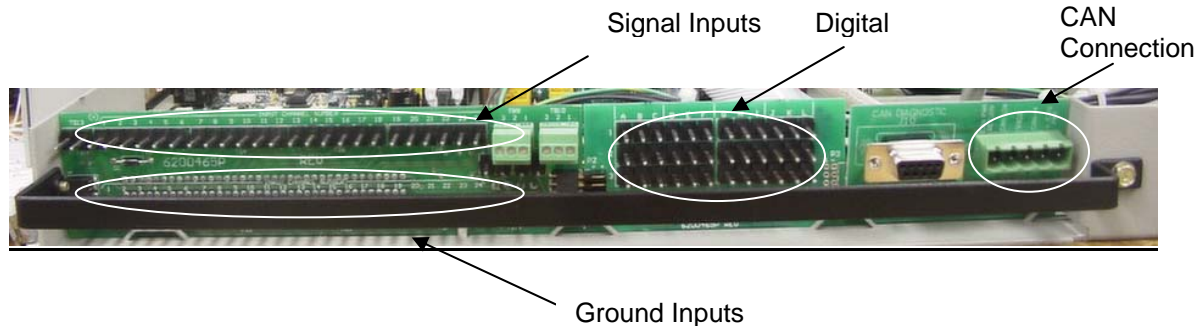

Figure 1-5. Location of Input Channels
In addition, the NetMACS II is equipped with a digital output option that provides four relay channels, each providing two Form C contacts. These relays reside on the companion interface card (for connection points see fig. 1-5) and extend plant alarms created within the NetMACS II.
1.7 ANALOG INPUTS (AI), DIGITAL INPUTS (DI), & DIGITAL OUTPUTS (DO)
All Analog Inputs (AI) and Digital Inputs (DI) are to be wired by the on-site installer. The inputs are on the back of the NetMACS II. The top row is for the positive input, while the bottom row is for the return. See Figure 1-5 and Table 1-2 and 1-3.